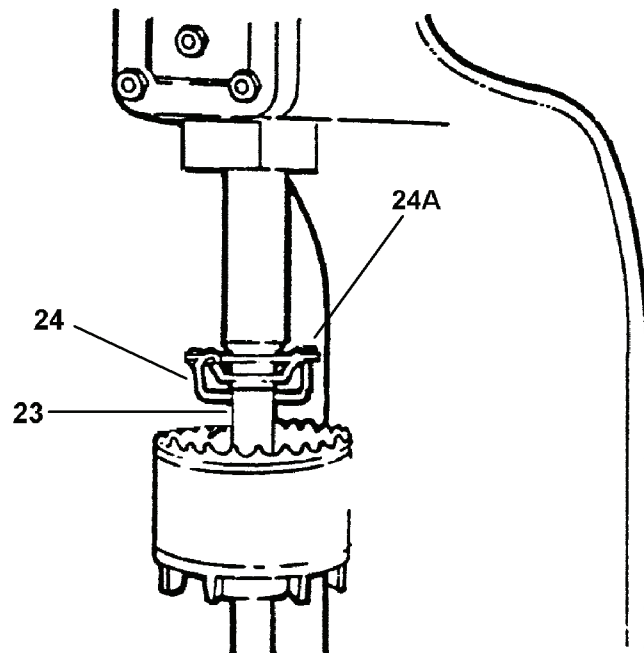

Figure 3-13. Pressing Actuator Onto Shaft in Arbor Press.
- a. Place rotor and shaft assembly (23, Figure 3-13) upside down into an arbor press. Support shaft firmly so as not to damage bearing journals or shaft threads. Place actuator (24) on shaft. Gently apply pressure to actuator (24) until it opens. Continue to press actuator onto shaft. When properly installed, the distance between the end of shaft (23) and the face of phenolic ring (24A) should be 2-61/64 inches. This measurement must be made when actuator is in the collapsed position. A tolerance of $\pm 1/64$ inch is allowed.